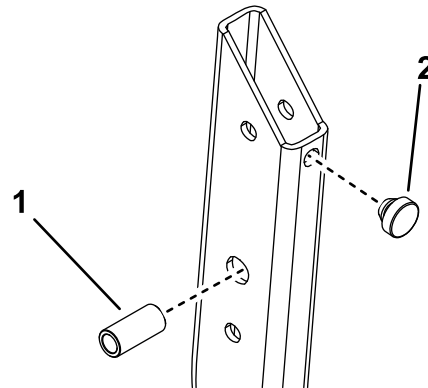

Figure 8
3. Install a bumper and cylindrical spacer to both lower roll bar tubes (Figure 8).